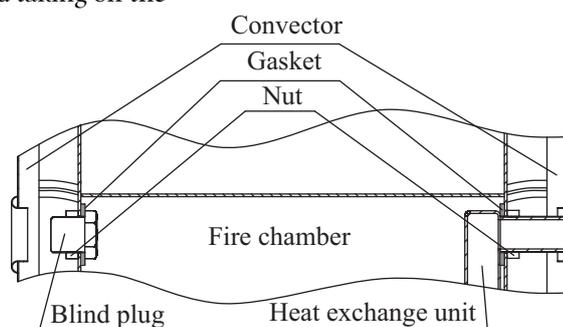

Figure 10. «Angara 2012» bath stove heat exchange unit and blind plugs disassembling
3. Remove the heat exchange unit (fig. 10) by unscrewing 2 nuts and taking it off the holes, the gaskets shall stay on the nipples;